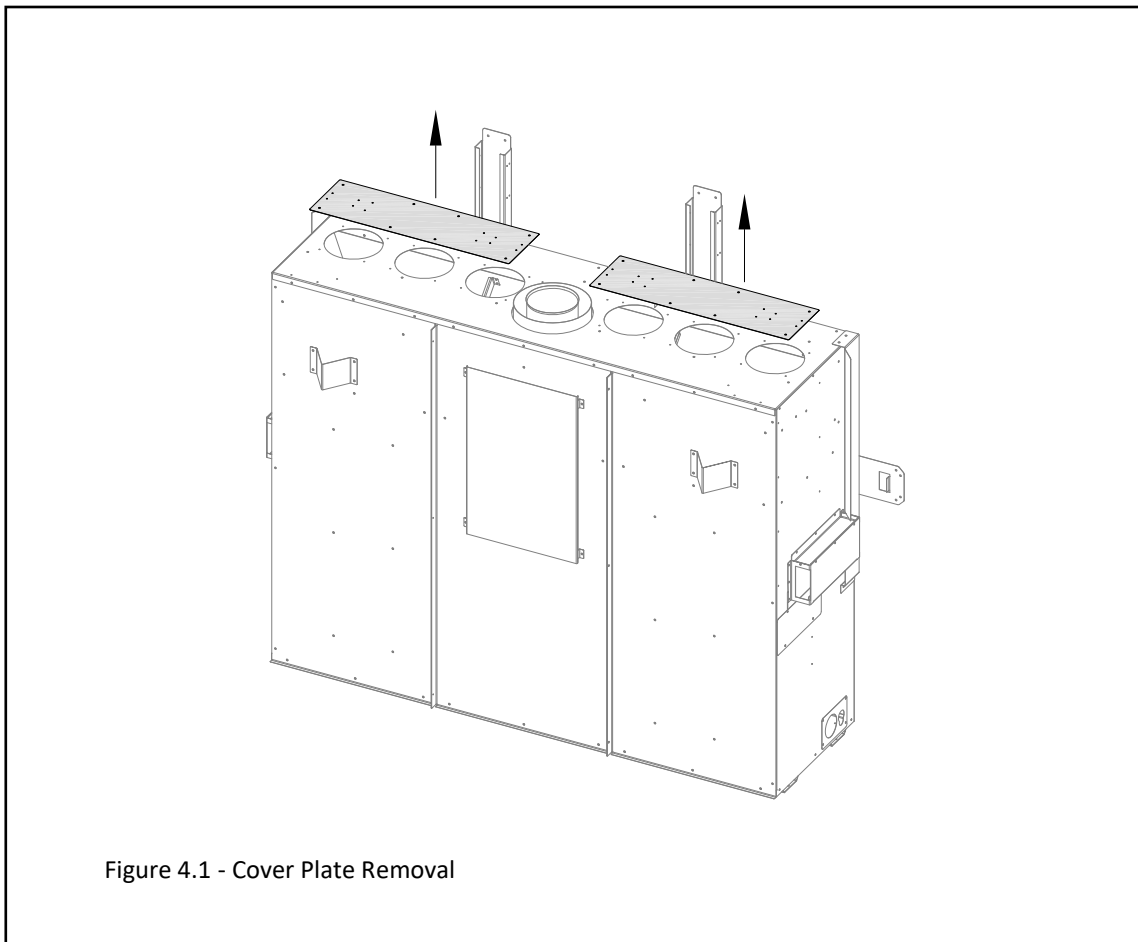
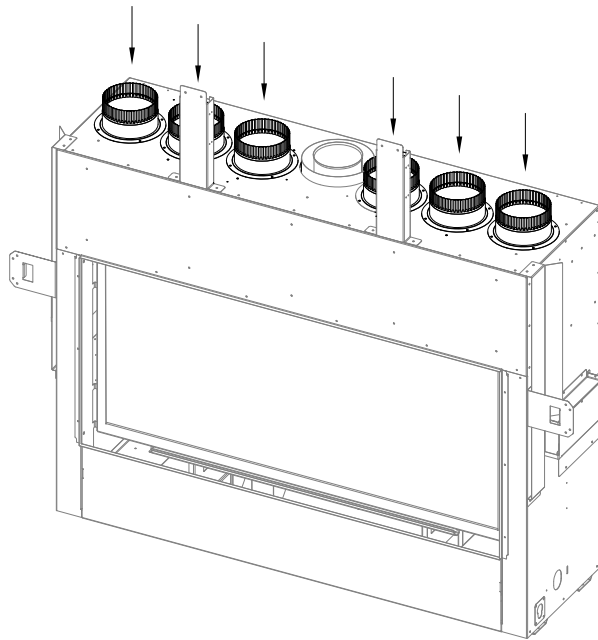
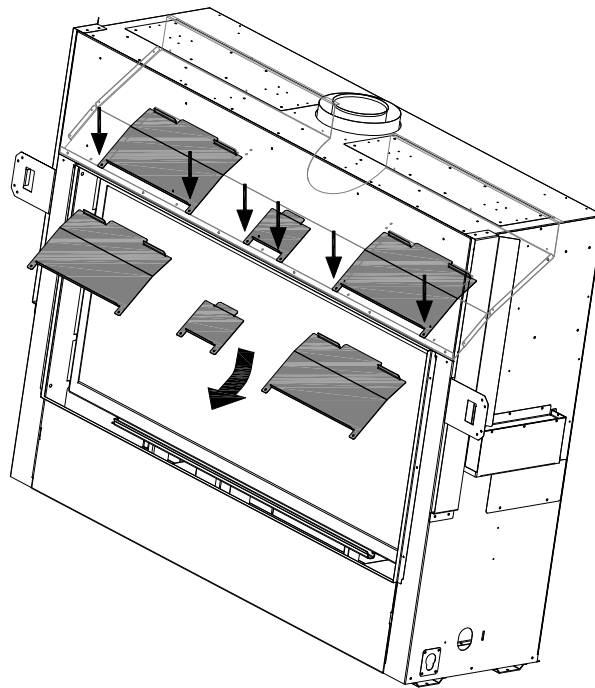

Figure 4.1 - Cover Plate Removal
Figure 4.2 - KZK Collar Installation
Figure 4.3 - Convection Baffle Removal
- The appliance cover plates and convection plates must be removed for Komfort Zone Kit installations, as shown in FIGURE 4.1 & Figure 4.3. KZK collars must be installed—See Figure 4.2.
1. Remove the (16) sheet metal screws that secure the (2) cover plates at the top of the fireplace shown in Figure 4.1. Discard these two cover plates. Save the sheet metal screws for the next step.
2. Install the KZK collars that were provided with KZK-062 as shown in Figure 4.2. Reuse the sheet metal screws from the previous step.
3. Locate the (3) convection baffles as shown in Figure 4.3. There are (2) screws that secure each convection baffle. Remove the screws and convection baffles from the fireplace. Discard the screws and convection baffles.